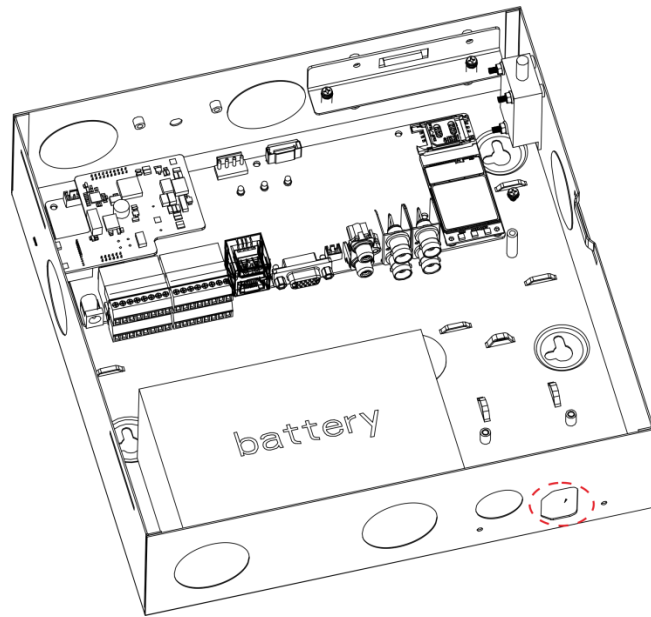

Figure 2-9
Step 1. Refer to Figure 2-9, knock off battery cover.